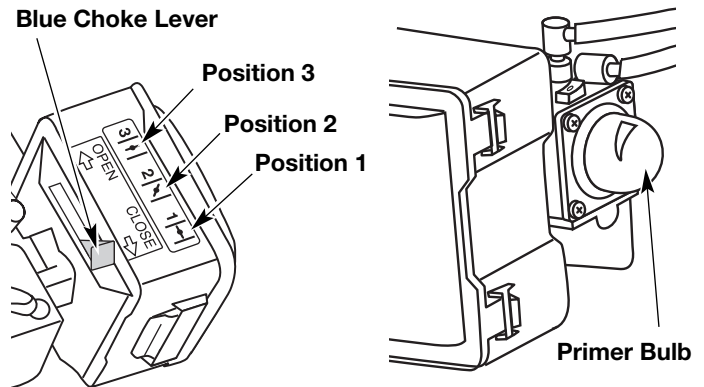

Fig. 11
4. Place the blue choke lever in Position 1 (Fig. 11).
5. Fully press and release the primer bulb 10 times, slowly. Some amount of **fuel should be visible in the primer bulb** and fuel lines (Fig. 11). If you can't see fuel in the bulb, press and release the bulb as many times as it takes before you can see fuel in it.